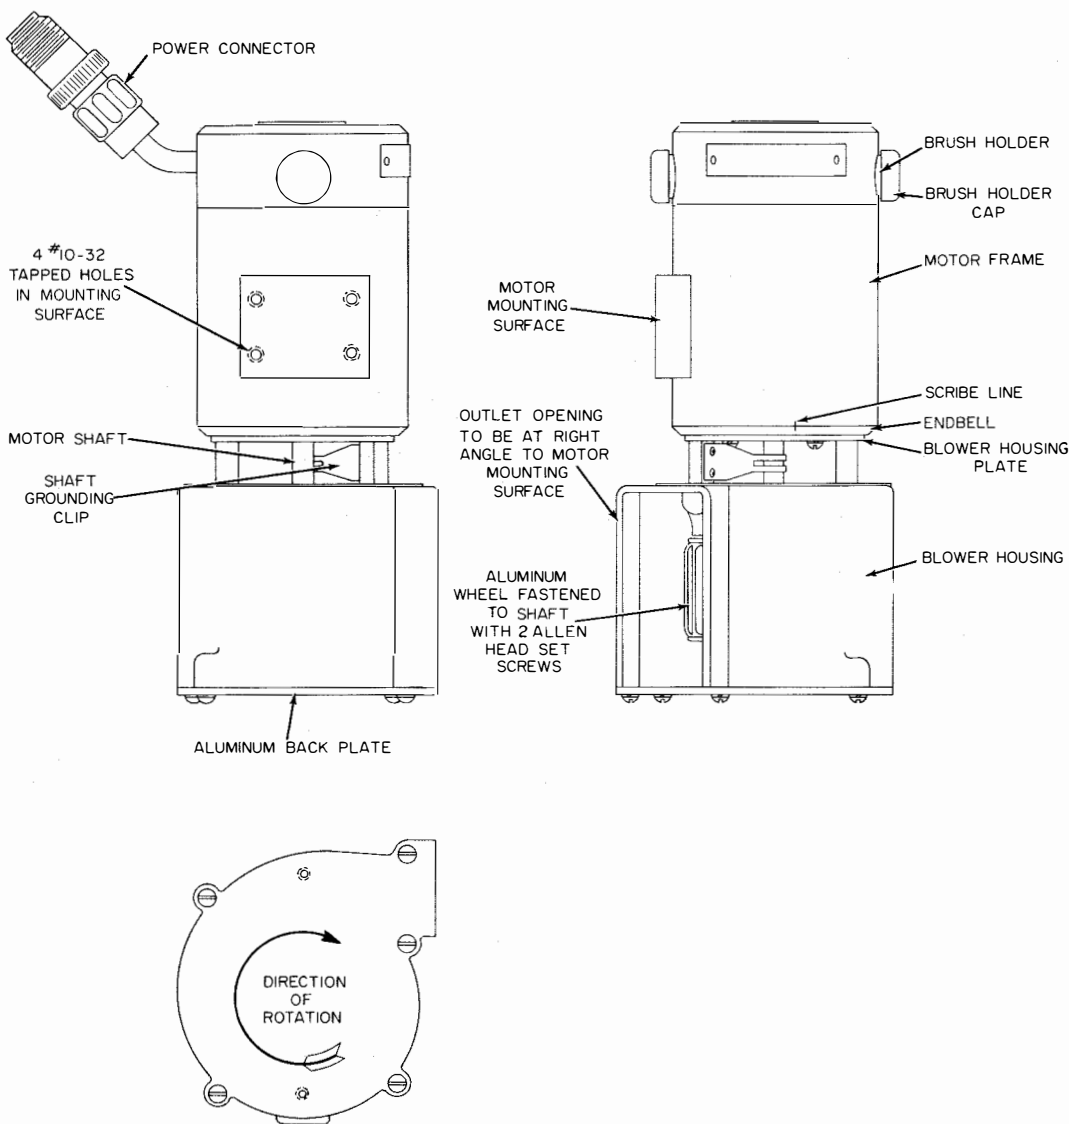

Figure 7-21. Blower, Outline Drawing
(See figures 7-21 and 7-22)
(1) Remove the blower motor assembly from the amplifier-oscillator unit as described in subparagraph a.
(2) Remove the aluminum backplate (secured by five screws) from the molded blower housing.
(3) Remove the aluminum wheel from the motor shaft by inserting an Allen wrench through the opening of the blower outlet port and loosening the two setscrews.
(4) Remove the blower housing by inserting a long screwdriver through the blower housing and removing the four screws and lockwashers which secure the blower housing plate to the endbell.
(5) Replace the old blower housing with a new one. Reassemble by reversing the procedures given above. Note that the blower outlet opening is at a right angle to the motor mounting surface (see figure 7-21).